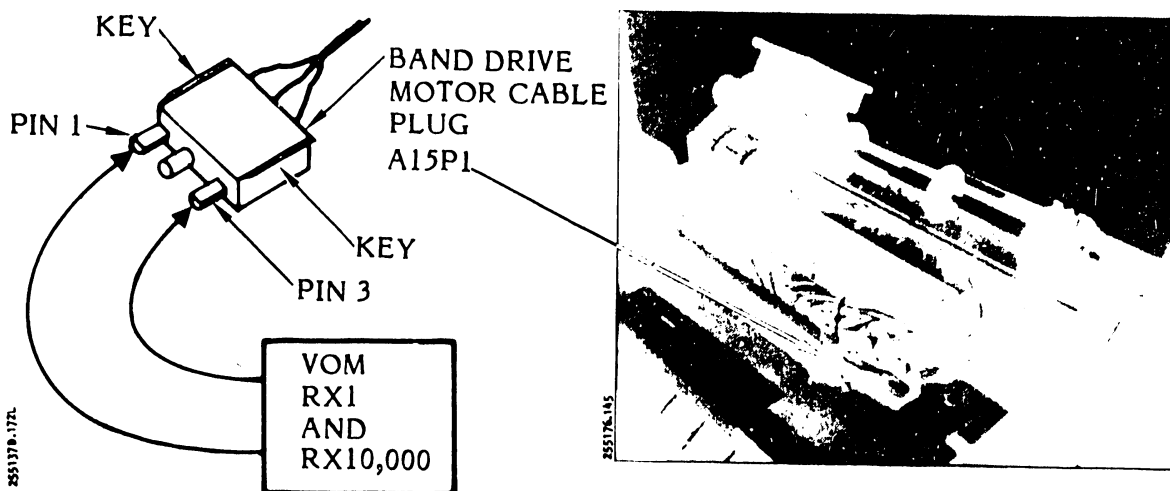

Figure 3-31A. Band Drive Motor Resistance Test
3.5.14 Band Drive Motor Test (Figures 3-31A, 3-31B, 3-31C)
- e. Unplug the band drive motor cable plug A15P1 from the Power Board CCA connector J1 (see figure 3-31A).